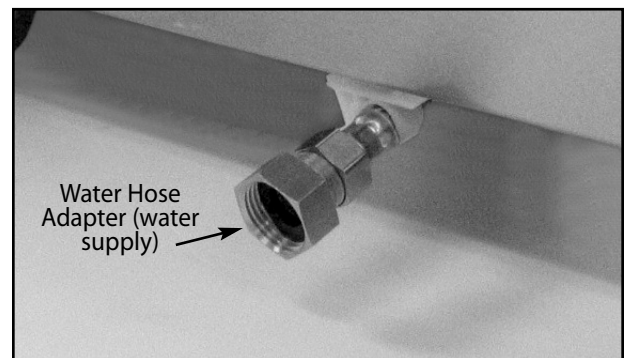

Fig. 51
11. Attach the water hose adapter to the water supply hose. (Fig. 51).